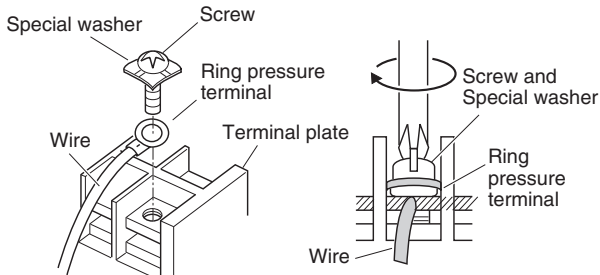

Fig. 4-6
- (2) Using a Phillips head screwdriver, remove the terminal screw(s) on the terminal plate.
- (3) Using a ring connector fastener or pliers, securely clamp each stripped wire end with a ring pressure terminal.
- (4) Place the ring pressure terminal, and replace and tighten the removed terminal screw using a screwdriver. (Fig. 4-6)